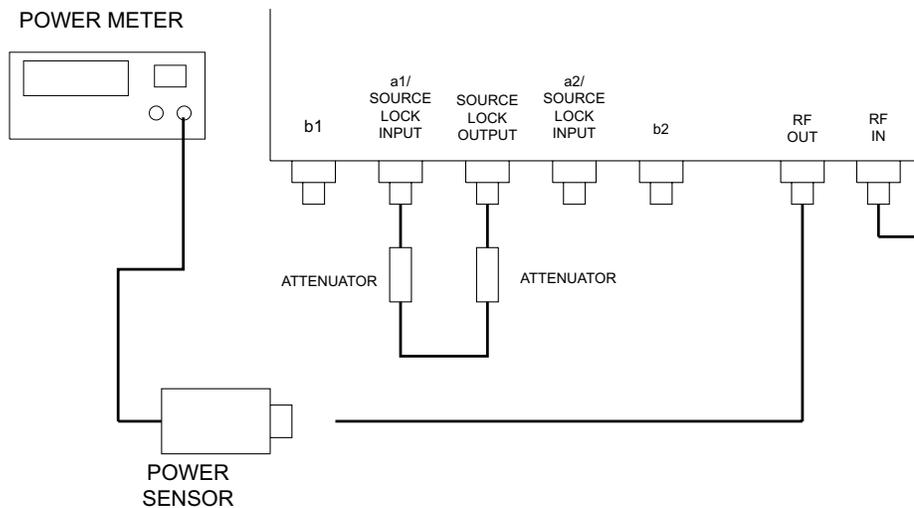

Figure 4-3. b1 Channel Verification Setup
Step 2. Set up the equipment as shown in Figure 4-3, below.